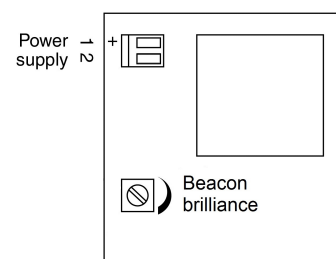

Fig 3 Location of field terminals and controls.
- Beacon brilliance is adjustable using the control shown in Fig 3.